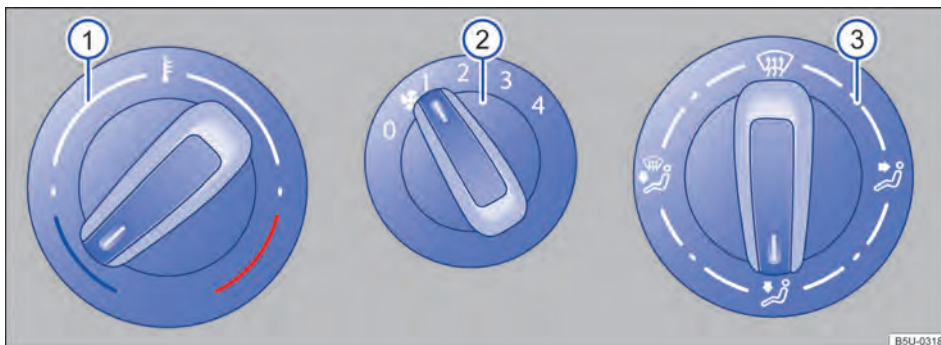

Fig. 74 Ventilation and heating system controls.
- *Heating and ventilation system*: turn the blower knob to level 0 → Fig. 74 ②.
- *Heating and ventilation system*: turn the left knob → Fig. 74 ① to adjust the temperature.
- *Heating and ventilation system*: turn the blower knob → Fig. 74 ②.
- *Heating and ventilation system*: rotate the right regulator → Fig. 74 ③ to the desired position.
- In vehicles with heating system, turn the temperature knob → Fig. 74 ⓘ completely to the right, to the maximum heating setting.